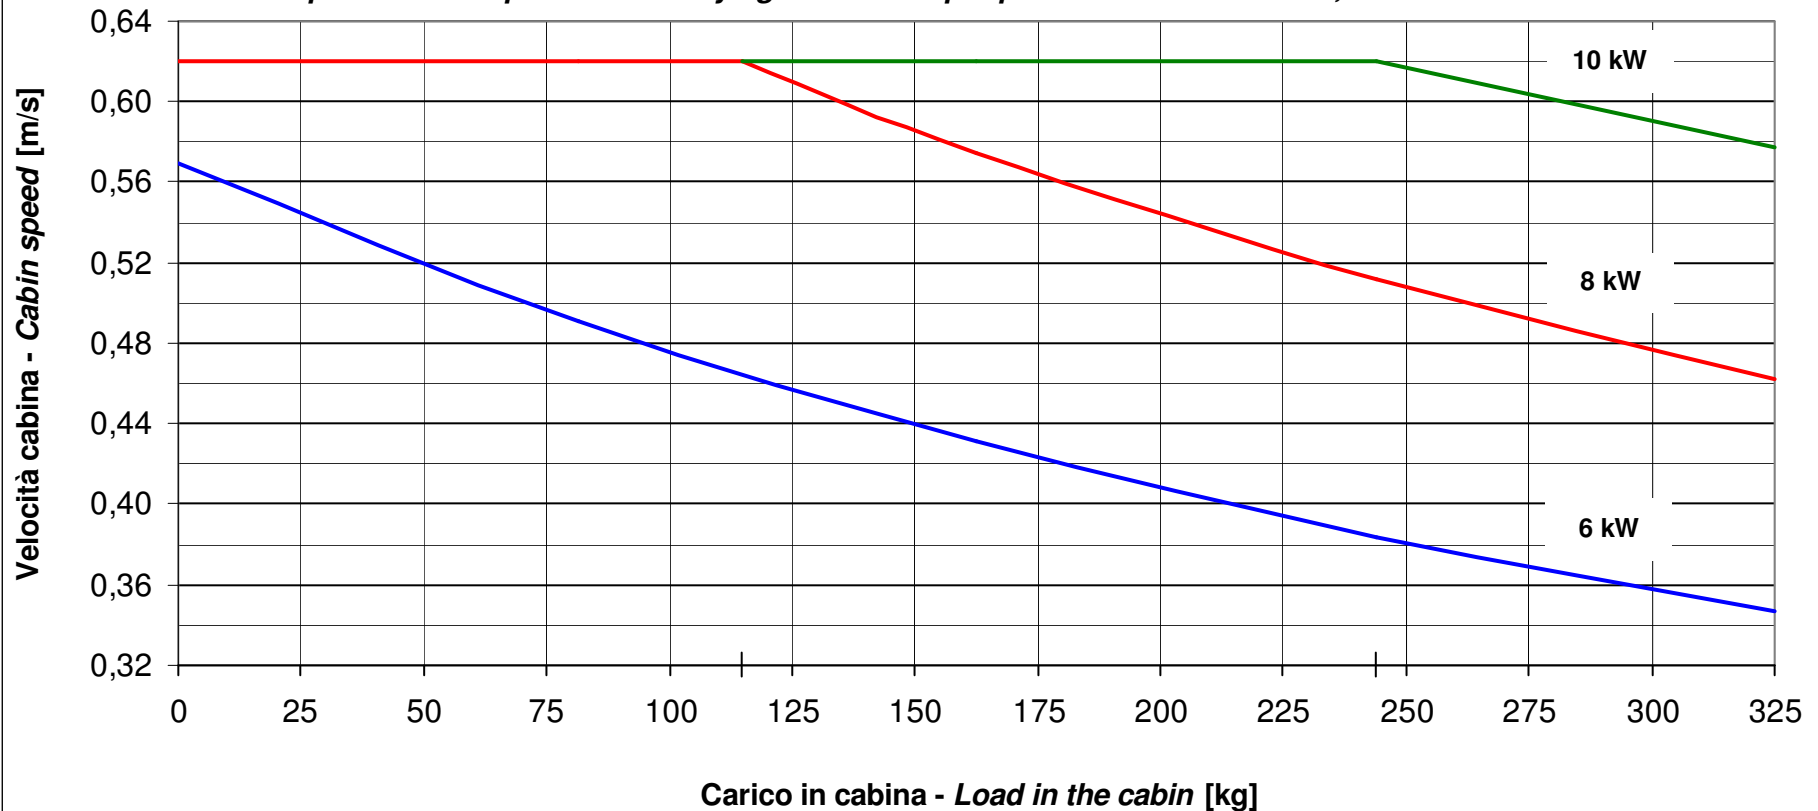

Figure 1
- II) thanks to the MED function called “committed power limitation” activated by the user, automatically reduce upward speed in some load conditions, so as not to exceed the input power agreed with the energy supplier, while keeping the motor power to the lift even at greater load than usual. This allows a power smaller than agreed, compared to that usually required by systems using the same motor size directly supplied by the mains, but accepting that the cabin cruise speed is reduced in some load conditions (please see figures 1, 2, 3, 4, 5, 6 and 7). For example from figure 1, you can note that: